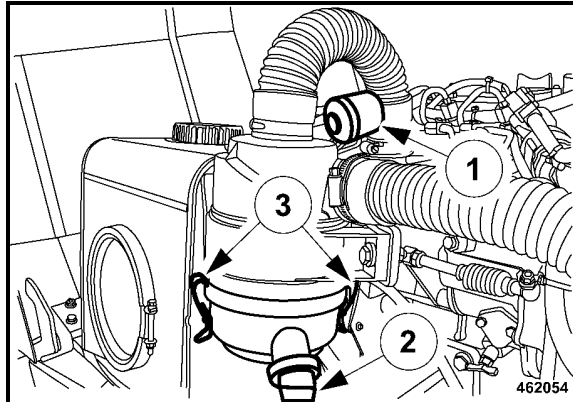

Fig. 122
Service of the air filter is due when the red piston of the filter service indicator (1) (Fig. 122) reaches into the transparent window.